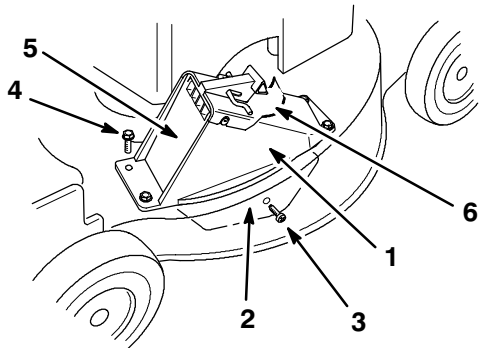

Figure 47
1. Grommet (4)
7. Insert the tongue of the discharge tunnel into the lawn mower (Fig. 47).
8. Align the holes in the tunnel with the grommets in the lawn mower (Fig. 47).
9. Ensure that the hole in the tongue aligns with the hole in the side of the lawn mower (Fig. 47).
10. Install the self-tapping plastite screw supplied with the grass catcher into the side hole and tongue, and partially tighten the screw (Fig. 47).
11. Using three screws supplied with the grass catcher, fasten the discharge tunnel to the lawn mower (Fig. 47).
14. Open and close the tunnel door to ensure that it moves freely (Fig. 47).